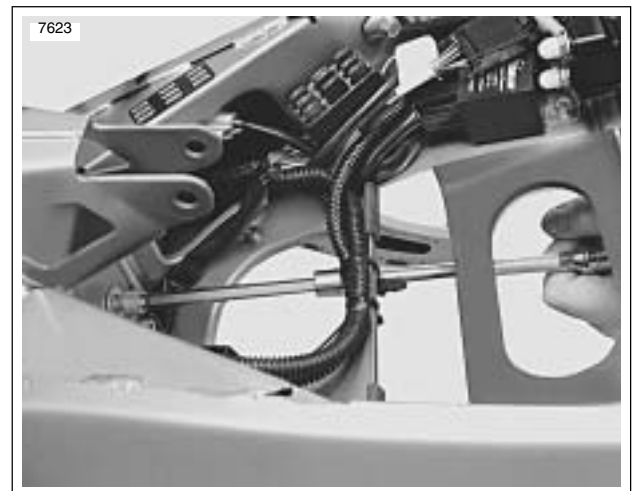

Figure 3-28. Installing Rear Motor Mount Bolts
12. See Figure 3-28. Install rear motor mount bolts.